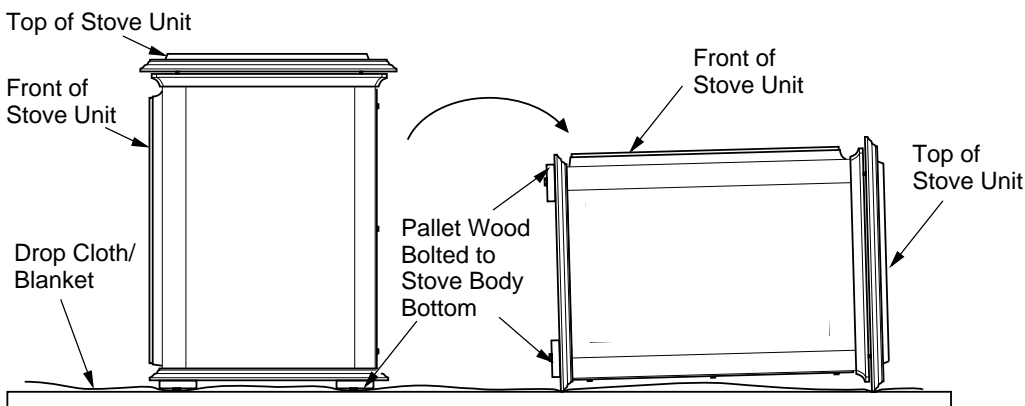

Figure 6 - Laying Down Stove On Side (Stove Style May Vary Depending on Model)
- Carefully lay stove body on back to attach bottom components to stove body (see Figure 6). Rest stove on drop cloth or blanket to avoid scratching stove edges.